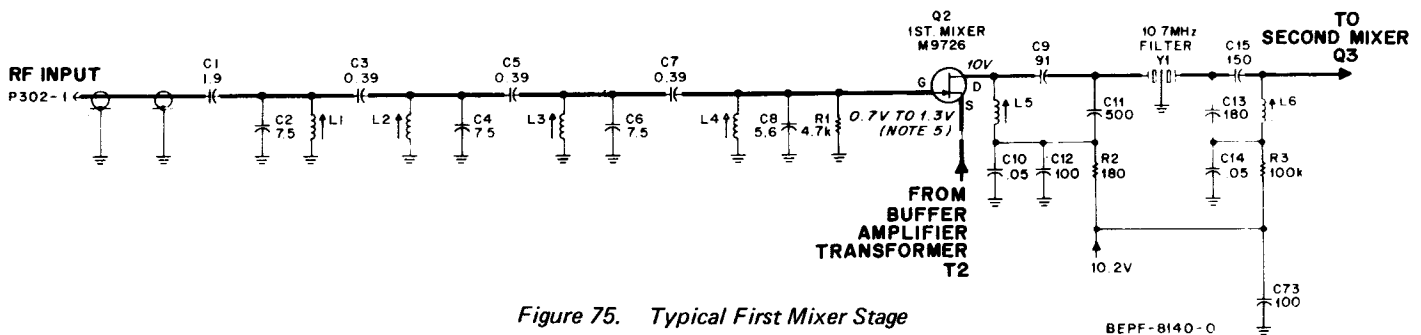

Figure 75. Typical First Mixer Stage
(1) First Mixer Stage (Refer to Figure 75)